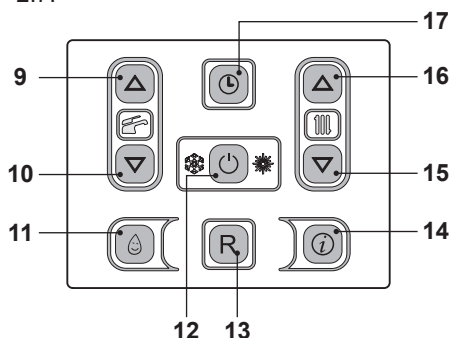

Fig. 2.7
Enter "programming mode" by holding down key 17 for 5 seconds (Fig. 2.7) until the display indicates the ⌚ symbol.
Use keys 15 (decrease) and 16 (increase) Fig. 2.7 to set the time, day and date values, using keys 9 and 10 to move from one parameter to the next.
- Press the key 12 for 2 seconds until both  symbol appear on the display Fig. 2.7.
The output temperature of c.h. water can be adjusted by acting on keys 15 (reduce) and 16 (increase) (Fig. 2.7) from a minimum of about 25°C to a maximum of about 85°C. Press one of the two keys once to display the "set" value. Press again to access the modification.
However, if the ambient temperature is not comfortable, the flow temperature of the heating plant can be increased or reduced by  $\pm 15^{\circ}\text{C}$  by acting on keys 15 (reduce) and 16 (increase) (Fig. 2.7).
The heating temperature of the zone valve controlled by a thermostat is configured on the boiler control panel using keys 15 and 16 Fig. 2.7.